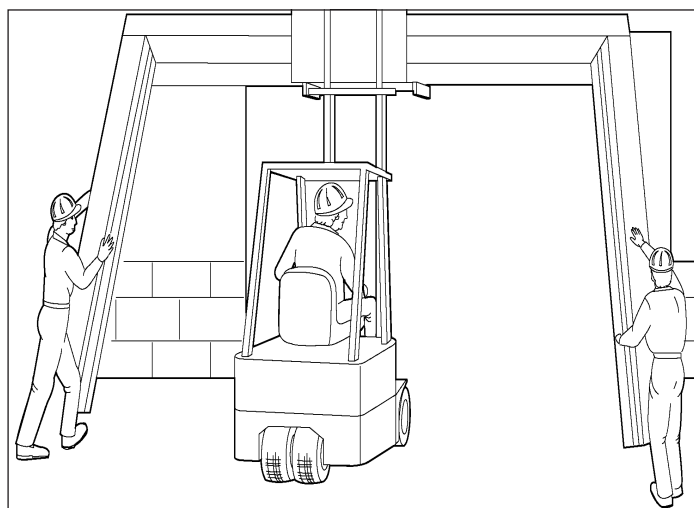

Figure 8.8
When overhead forklift mast clearance is a problem, additional support blocks may need to be added under the roller tube assembly. Securely attach wooden supports to the roller tube assembly and lift into position. Use caution not to bend or twist the header braces, **Figure 8.8**.
22. Make sure sideframes slide easily on the floor when lifting. It is helpful if the sideframes can be walked up with one person on each side, **Figure 8.8**.